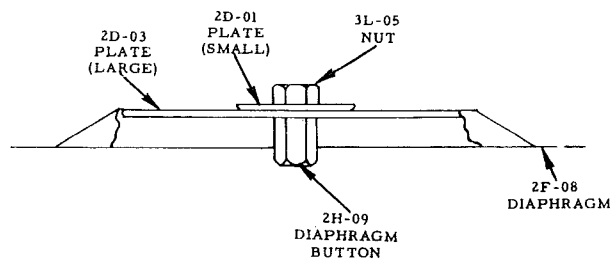

FIGURE 17
7. Secondary Diaphragm Assembly (Figure 17)